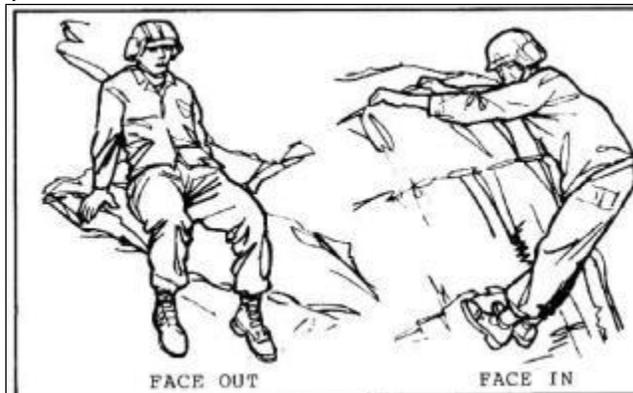

Figure 21-3
- d. Descents. (Fig 21-3) Face out when the going is easy, sideways when hard or face in when difficult. Use the lowest possible hand holds.